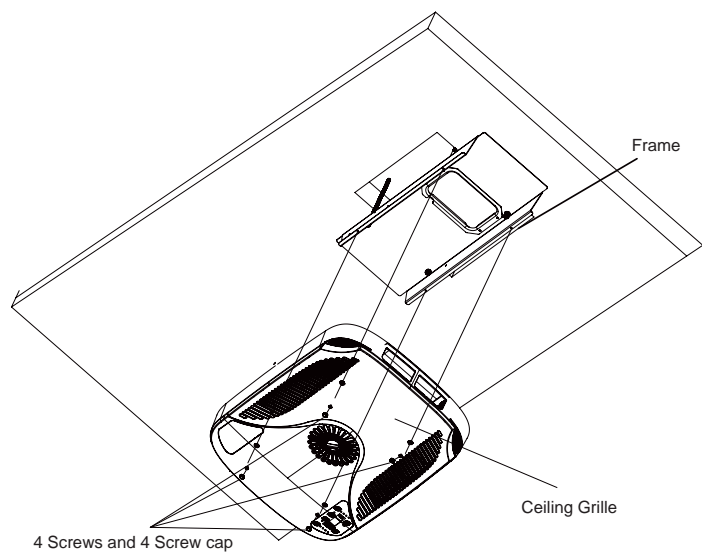

Figure 10
3. Secure the ceiling grille to the ceiling assembly frame with 4 screws. (see Figure 10).